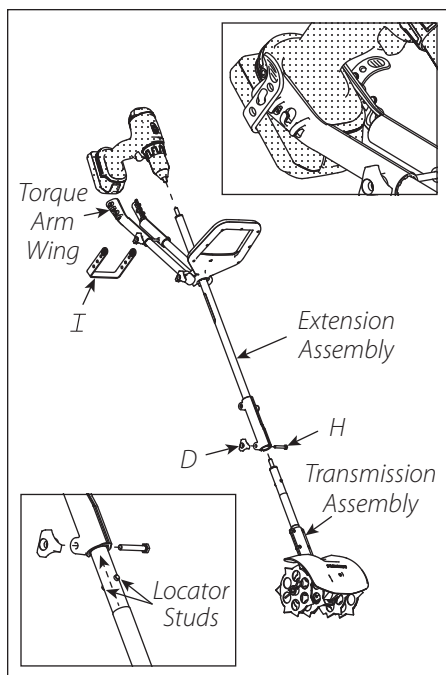

FIGURE 5
SEE FIGURE 5
4. Secure the wing ends of the torque arm with the rubber strap (I) hooked onto the best available hook of one torque arm wing, stretching the strap around the bottom of the battery and hooking it onto the best available hook on the other side. Multiple holes are available on the rubber strap to ensure a secure stretch fit around most any available battery size. **SEE FIGURE 5**
3. Slide the handle (O) off of the extension (P) and set aside.
4. Remove the extension from the transmission assembly by loosening and removing hand knob nut (D) and bolt (H). **SEE FIGURE 5**